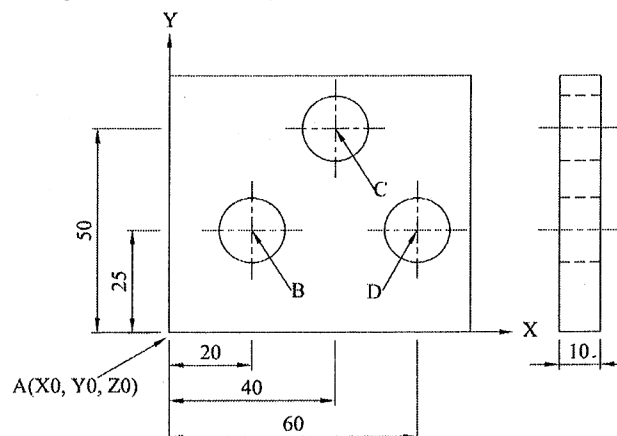

Fig.1 A plate to be drilled in CNC Drilling Machine
b) Three through holes of 16 mm diameter are to be drilled in a 10 mm thick steel plate as shown in Fig.1. The left bottom corner (point A) of the pre-machined plate or any other suitable point may be taken as the reference point in XY plane. Write a part program considering all dimensions in mm. (G and M codes are given in Table 1). (CO5) (5+3)+12=20